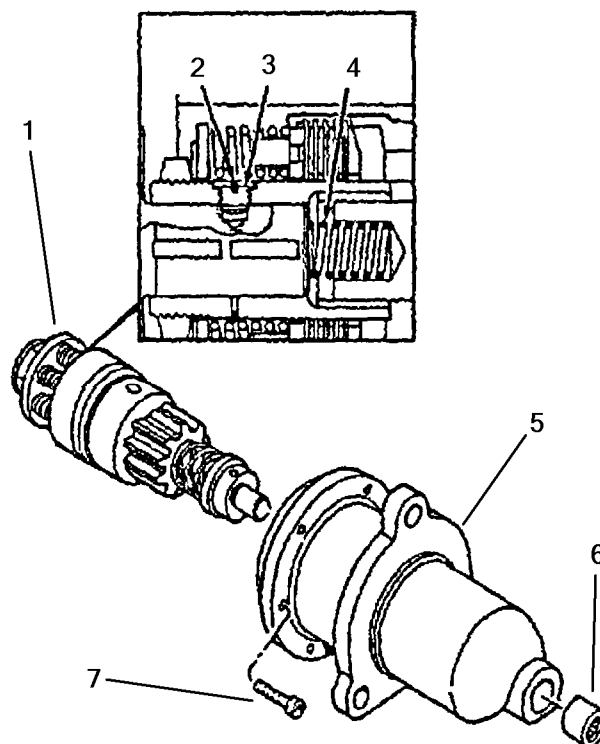
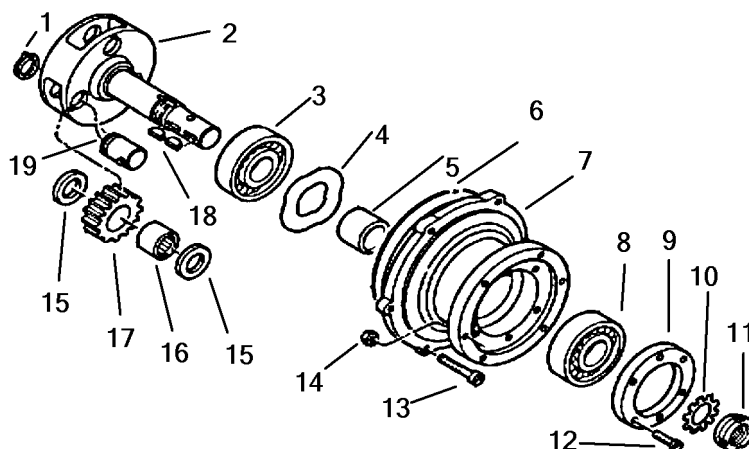
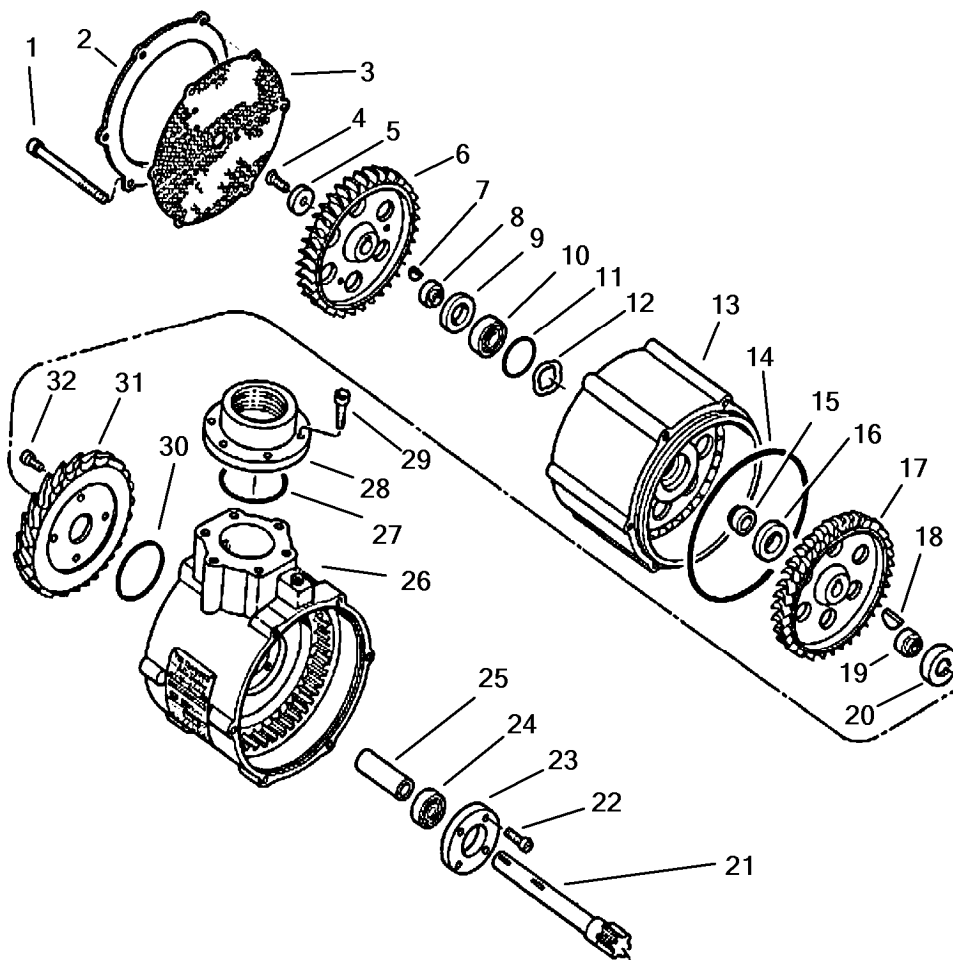

FIGURE 3-35. Disassembly of Bendix Drive Assembly.
FIGURE 3-35A. Disassembly of Gear Box Housing Assembly.
FIGURE 3-35B. Disassembly of Turbine Housing Assembly.
3-27. Repair Engine Air Starter. (FIGURES 3-35 Through 3-35H)
- b. Remove bendix housing (5, FIGURE 3-35) by removing screws (7) from gearbox housing assembly (7, FIGURE 3-35A).
- c. Remove needle bearing (6, FIGURE 3-35) from bendix housing (5).
- d. Remove retaining ring (2) from set screw (3) slot.
- e. Remove bendix drive (1) from carrier shaft (2, FIGURE 3-35A).
- f. Remove bolts (13) and locknuts (14) from gearbox housing (7) and separate gearbox housing from turbine housing (26, FIGURE 3-35B), lightly tapping with a mallet.
- g. Remove woodruff keys (18, FIGURE 3-35A) from carrier shaft (2).
- h. Using a screwdriver, bend back locking tab on washer (10) and remove retaining nut (11).
The aft bearing (3, FIGURE 3-35A), wavy washer (4), and bearing spacer (5) will come out with the shaft.
- i. Remove gearbox housing (7, FIGURE 3-35A) and O-ring (6) from carrier shaft (2) by holding the shaft down and pulling directly up on the housing.
- j. Remove bearing (3) from carrier shaft (2) using a press.
- k. Remove screws (12, FIGURE 3-35A) and remove retainer plate (9) from front of gearbox housing (7).
- l. Remove bearing (8) from gearbox housing (7), lightly tapping with a mallet.
- m. Remove snap ring (1) from planetary shaft (19) and push shaft through hole in assembly.
- n. Slide the planetary gear (17) out of the carrier shaft (2) and remove the two nylon spacers (15).
- o. Press needle bearing (16) from planetary gear (17).
- p. Remove screws (22, FIGURE 3-35B) and clamping plate (23).
- q. Position starter with exhaust end up and remove support ring (2) and screen (3) by removing screws (1).
- r. Scribe mark the outer face of the rotor (6) and remove screws (4) and washers (5).
- s. Using a puller, remove rotor (6) and key (7).
- t. Support turbine housing on a press and press shaft (21, FIGURE 3-35B) from the turbine housing (26); remove key (18) and spacer (25).
Rotate the rotor (17, FIGURE 3-35B) if necessary to allow jacking screws to be inserted through the large holes in the rotor. Jacking screws will damage the rotor if pressure is applied to them while removing nozzle/liner (13).
- u. Install two jacking screws into nozzle/liner (13) and separate the nozzle/liner (13) from turbine housing (26).
- v. Scribe mark the outside face of the rotor (17); remove the rotor and O-ring (14) from nozzle/liner (13).
- w. Remove seal spacer (15) from nozzle/liner (13) and place nozzle/liner exhaust end down.
- x. Press bearing (10), spacer (8), lip seal (9), O-ring (11) and wavy washer (12) from the nozzle/liner (13).
- y. Turn nozzle/liner (13) over and press out the lip seal (16).
- z. Scribe mark the outside face of the nozzle (31) and remove the nozzle and O-ring (30) by removing screws (32).
- aa. Remove lip seal (20) from nozzle (31).
- bb. Remove air inlet (28) and O-ring (27) by removing screws (29).